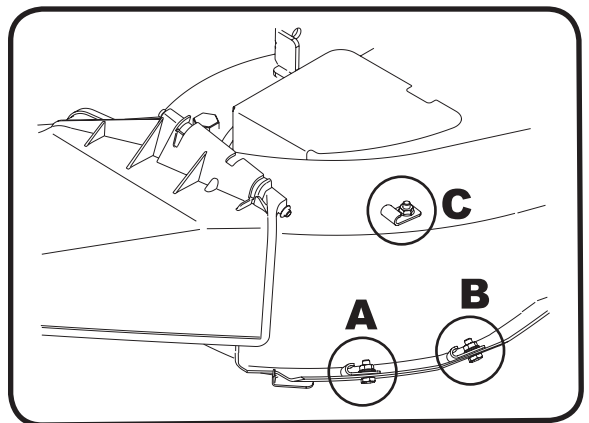

Figure 22
1. **On older models:** Some older models may have a clip already installed on the deck (See Figure 22) next to the discharge chute opening. If this is the case, the clip must be removed and a grass catcher pin, which is included in your hardware pack, installed. To remove clip, simply remove the lock nut, spring washer and hex bolt that secure it. See Figure 23A.